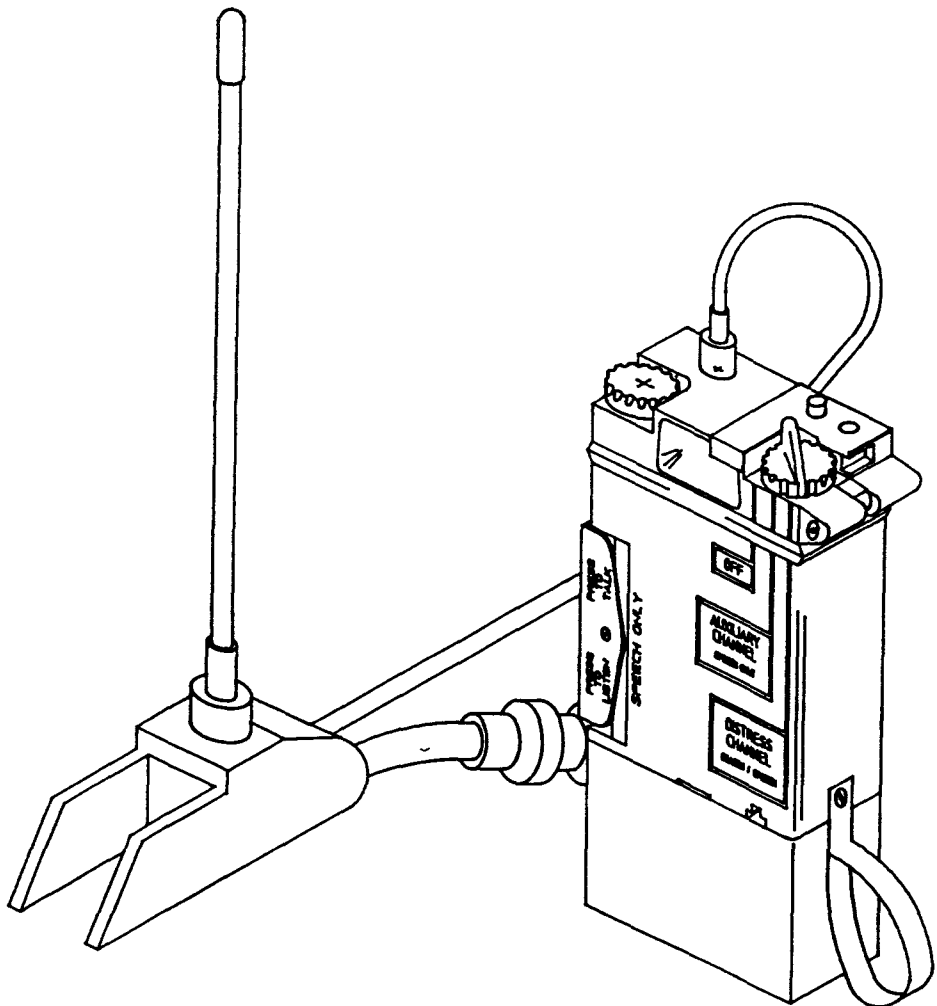

Fig. 1 Distress PLB (ARI 23237/1)
1. The Distress PLB (ARI 23237/1), fig. 1, is a compact, dual channel crystal-controlled transceiver, with both beacon transmission and speech communication modes of operation. This primary function is to provide, in association with suitably equipped search aircraft, a means of locating personnel in distress. Two-way speech communication between the survivor and rescue service is available on both the distress channel and an auxiliary channel. The PLB can be used with an Interconnecting Cable interposed between the PLB sub-assembly and the battery, enabling the battery to be located in a separate pocket.
8. For the purposes of a brief technical description the equipment can be considered to comprise the items shown in the simplified block diagram fig 1. A 243.0 MHz transmitter provides speech, and in conjunction with a beacon tone generator, beacon transmission through the aerial switching and combining unit on the International Distress Frequency. A second transmitter, on 282.8 MHz, provides speech transmission only on the International Scene of S